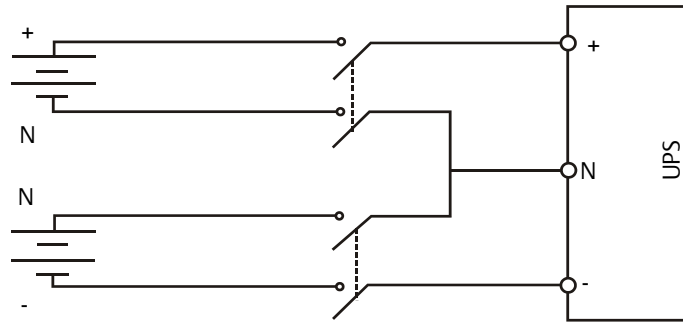

Figure 6-2 Connections between battery, BCB and UPS (4 wires at battery side)
1. If the external battery is configured to have separate wiring of positive terminal and negative terminal (that is, four wires will be led out from the battery side), for the UPS, due to the limitation of the rated current, it is recommended to use a 4P DC MCCB (DC rated voltage of the breaker meeting 1-pole 250Vdc, 2-pole 500Vdc, 3-pole 750Vdc, rated breaking capacity limit being 35kA) or two 2P DC MCCBs (DC rated voltage of single breaker meeting 1-pole 250Vdc, 2-pole 500Vdc, rated breaking capacity limit being 20kA). Connections between the battery, BCB and UPS are shown in Figure 6-2.